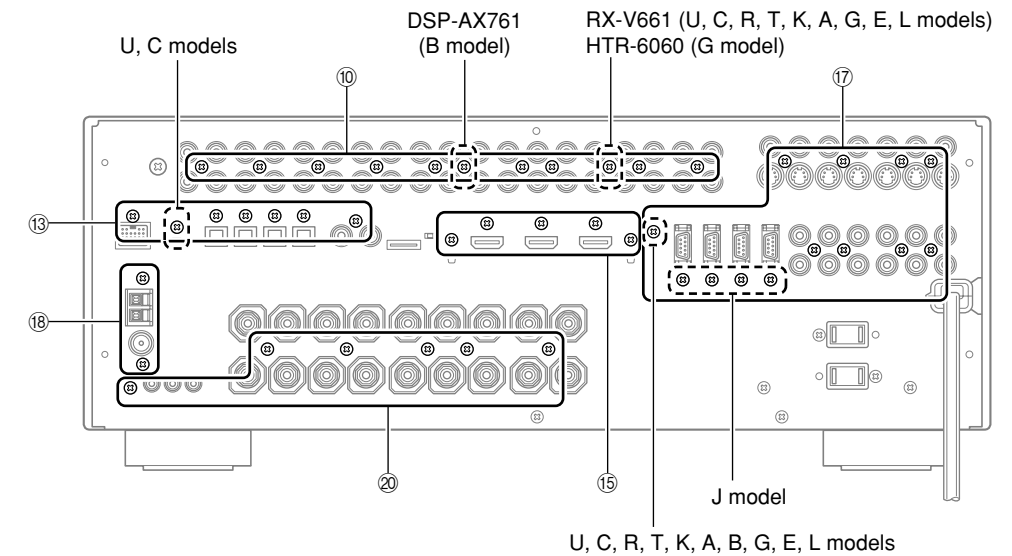

Fig. 4
- c. Remove 10 screws (RX-V661: U, C, R, T, K, A, G, E, L models, HTR-6060: G model, DSP-AX761: B model) / 9 screws (HTR-6060: U, C models) (10). (Fig. 4)
- c. ⑩のネジ9本を外します。(Fig. 4)
- b. Remove 7 screws (U, C models) / 6 screws (R, T, K, A, B, G, E, L models) (13). (Fig. 4)
- b. ⑬のネジ6本を外します。(Fig. 4)
- Remove 5 screws (15). (Fig. 4)
- Remove 9 screws (17). (Fig. 4)
- Remove 2 screws (18). (Fig. 4)
- Remove 6 screws (20). (Fig. 4)
- ⑮のネジ5本を外します。(Fig. 4)